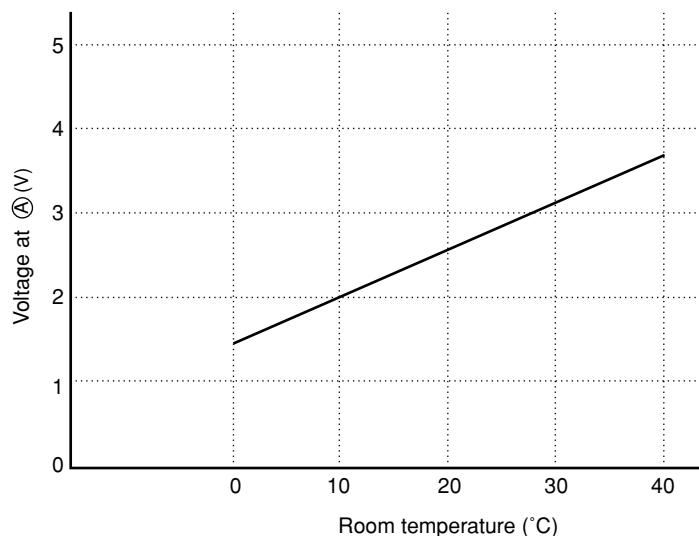

Fig. 5-2
- The voltage at  $\textcircled{A}$  depends on the room temperature as shown in Fig. 5-2.